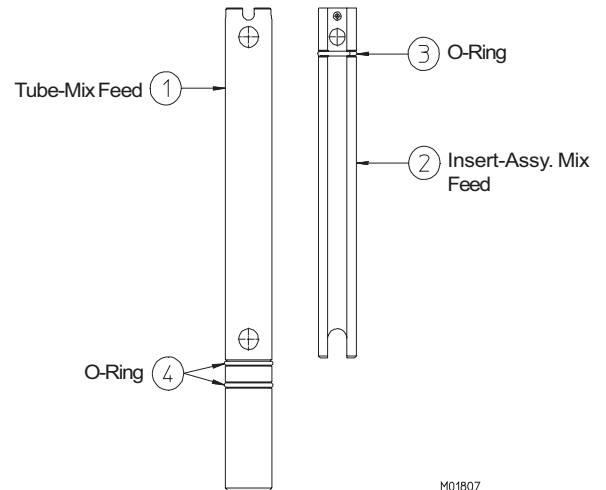

Figure 7-6
11. Install the o-rings (9) onto the spindle mixer (8). Insert spindle mixer into the head, insert the keeper (12), through the handle (10) and head (1) and lock in place. Do not lubricate.
12. Install the actuator rod (7).
15. See Figure 7-6. Install the o-rings (2) on the mix feed tube (1). The mix feed tube o-rings do not need to be lubricated.